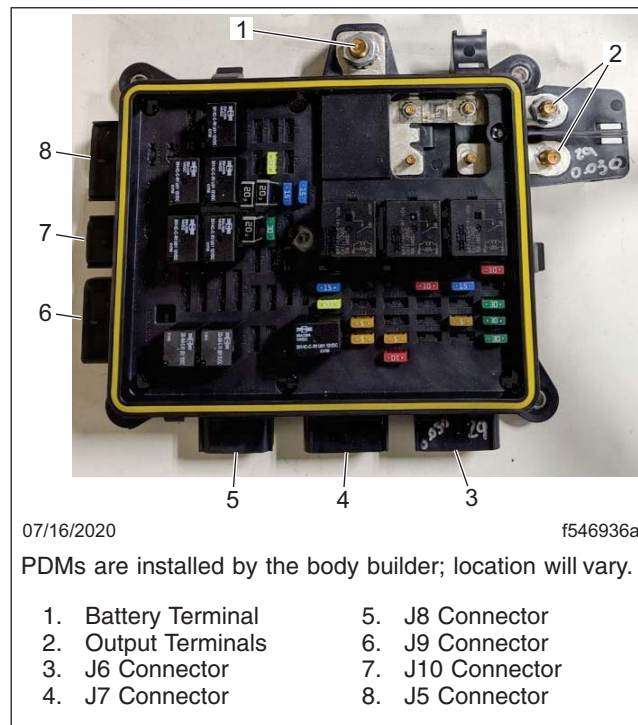

Fig. 1, PDM Components
5. Disconnect all electrical connections to the PDM. See Fig. 1.